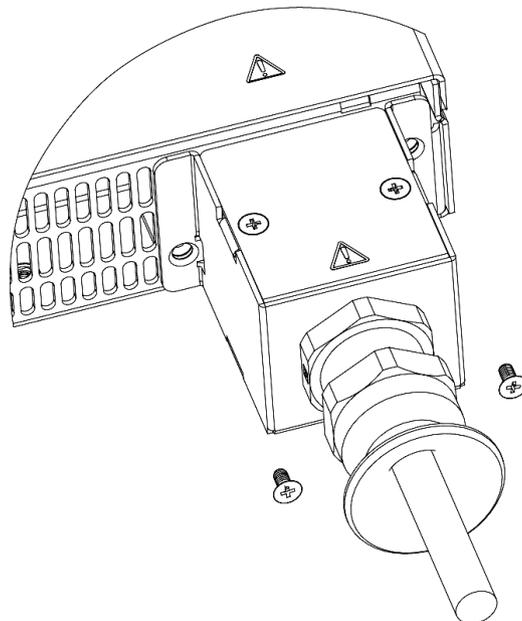

Figure 4-25: Strain Relief Assembled to Power Supply Rear Panel
9. Fix the strain relief assembly, by two M3x8 Flat head screws, supplied in the accessories box, as shown in Figure 4-25. Tightening torque: 4.7-5.7 Lbf-inch. (0.53-0.64Nm). Remember to connect AC input connector into power supply AC input plug.